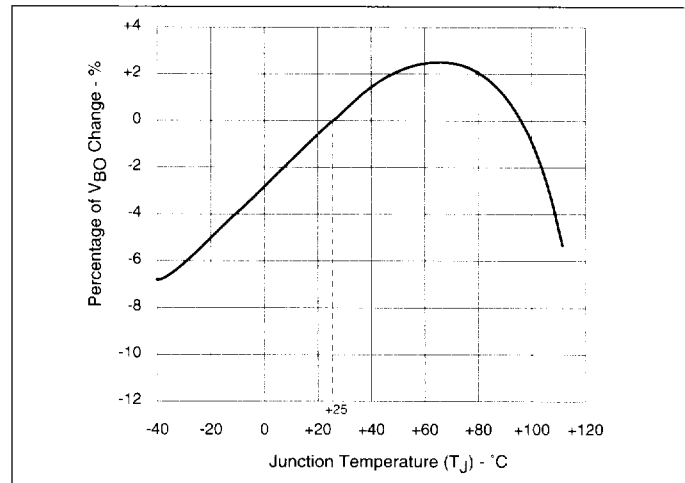

Figure 9.6 Normalized V_{BO} Change vs Junction Temperature
- (1) See Figure 9.6 for V_{BO} change vs junction temperature.